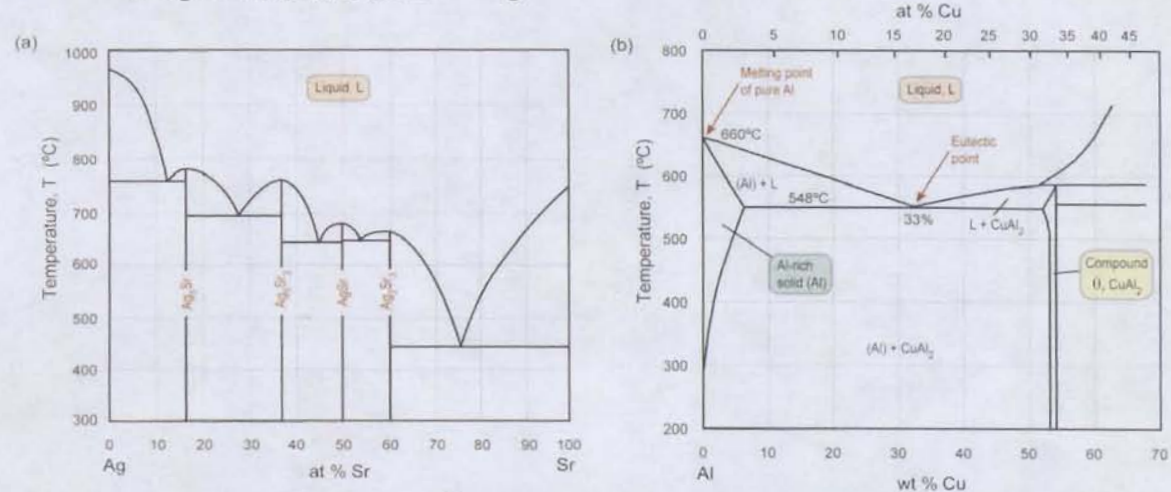

Figure 4: Phase diagrams showing intermediate compounds:
10. Use Figure 4 to answer the following: